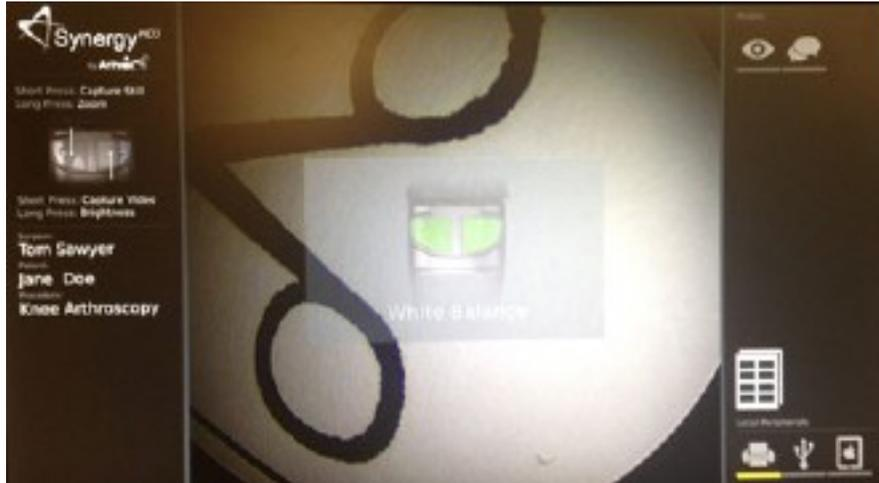

Figure 35 -Synergy^{UHD4} Initial Screen
2. The camera will take approximately 60 seconds to fully load its boot software. When the software has fully loaded, you will see the Synergy^{UHD4} Initial Screen shown below in Figure 35.
15. Once the White Balance Operation has been successfully completed, the Camera Head buttons will function as defined on the Synergy^{UHD4} Initial Screen Figure 35.